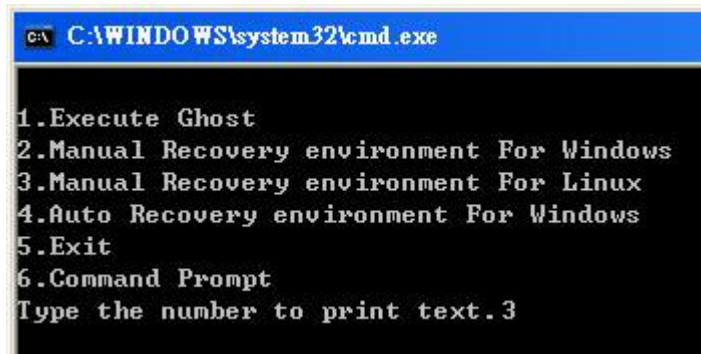

Figure C-30: Manual Recovery Environment for Linux
Step 4: Build the recovery partition. Press any key to boot from the recovery CD. It will take a while to launch the recovery tool. Please be patient. When the recovery tool setup menu appears, type <3> and press <Enter> (**Figure C-30**). The Symantec Ghost window appears and starts configuring the system to build a recovery partition. After completing the system configuration, press any key to reboot the system. Eject the recovery CD.